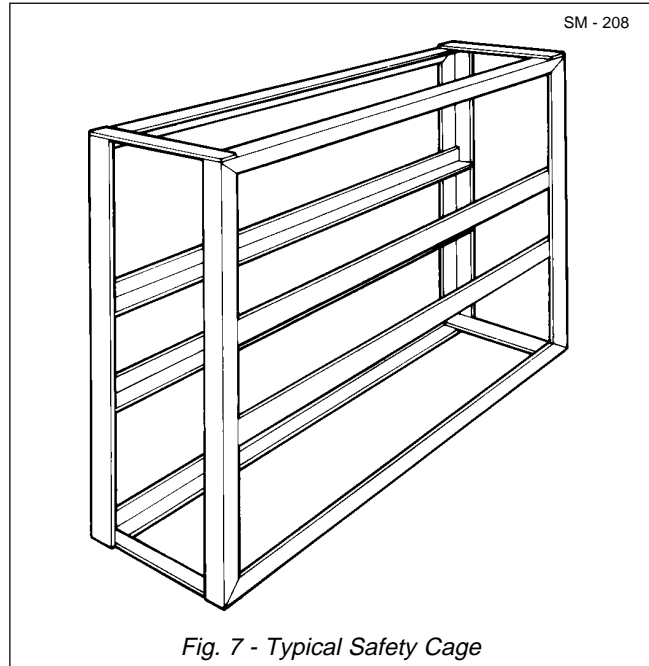

Fig. 7 - Typical Safety Cage
1. If the tyre is off the truck, it should be placed in a safety cage before inflating. See Fig. 7.